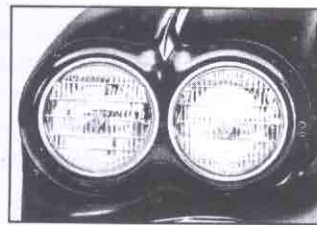

Fig. 51—Headlamps
1. Remove the four screws securing the headlight door (fig. 51).